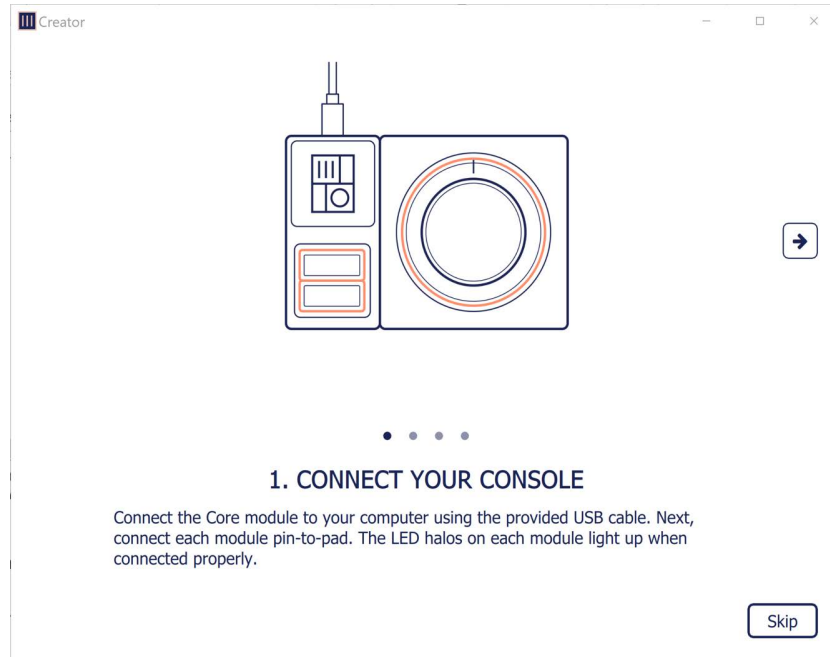

Figure 17 - Connect Console Dialog Box
3. The connect console dialog box appears (Figure 17).